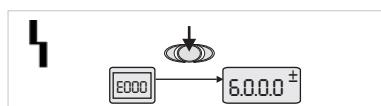

Fig. 31: Error case menu mode
**Error case:** In case of error, menu number <6.0.0.0> is displayed (Fig. 31).